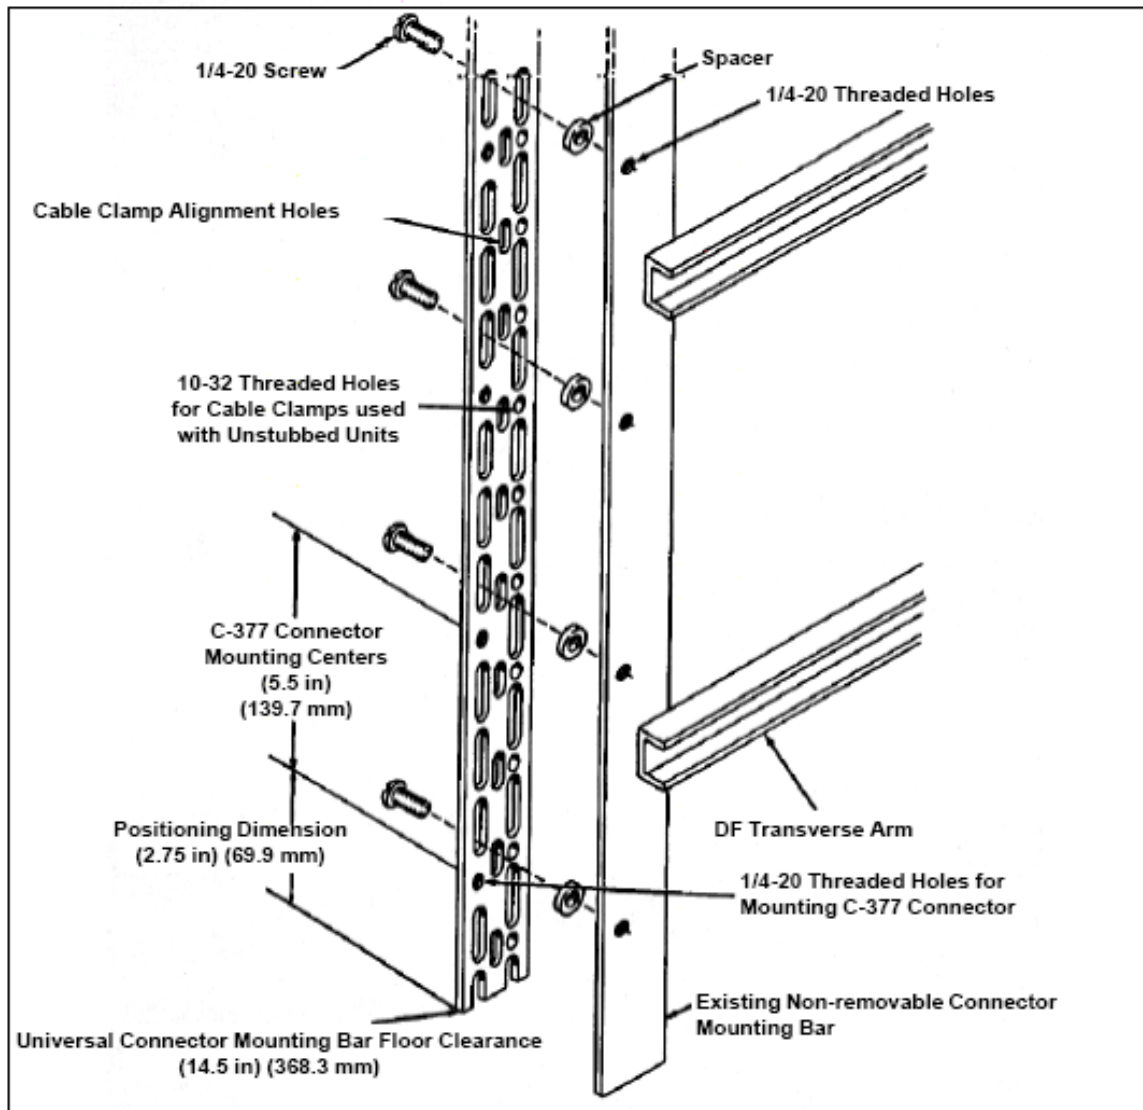
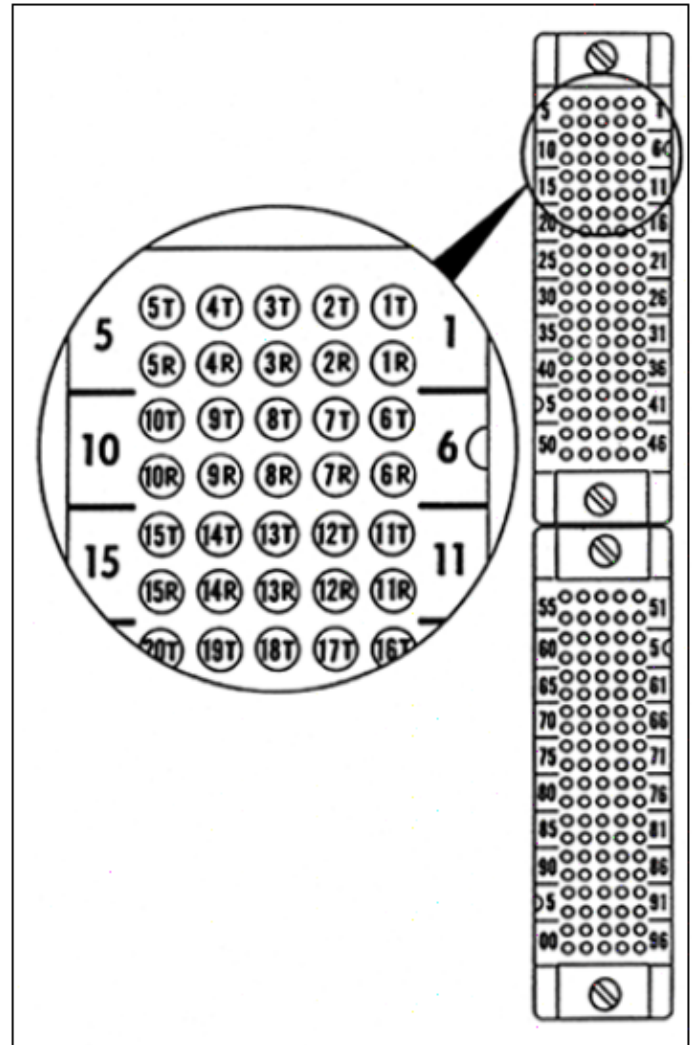

Figure 5 — Installing the Universal Connector Mounting Bar on Non-removable Frame Mounting Bar
Figure 15 – Test Field Terminal Details
4.2 When the existing connector mounting bar cannot be removed, the universal connector mounting bar is bolted directly over the existing bar, with the spacer washers (supplied) installed between to provide clearance for the tips of the connector mounting screws. The universal connector mounting bar should not project beyond the edge of the existing bar (Figure 5)
4.3 One end of the universal connector mounting bar will be marked to indicate the mounting position on the distributing frame. Be sure that all mounting bars are installed with the correct end toward the bottom (Figures 5 and 5).
10.1 The side of the lower test field is provided with a space to mark the cable number and pair count for the connector (Figure 5). After marking, the connector can be jumpered. CO terminals are angled out for easy access when the connector is in the straight-on position. Terminal numbers are marked in black, on both sides of the test field, with a number for the beginning of every set of five terminals (1,6,11,16, etc.). Refer to Figure 15. Terminal numbers are also molded into the connector base between the rows of terminals (three numbers per row: 1,3,5,6,8,10, etc.)
10.3 Replace plastic jumper field cover, if used (Figure 5).
12.1 The connector base has two 50-pair test fields available at the top and bottom of the connector. Test points are connected directly to the outside plant cable with a separate connection for the ring and tip of every pair. The test field is marked with numbers showing the beginning and end of each row of five terminals (Figure 15).